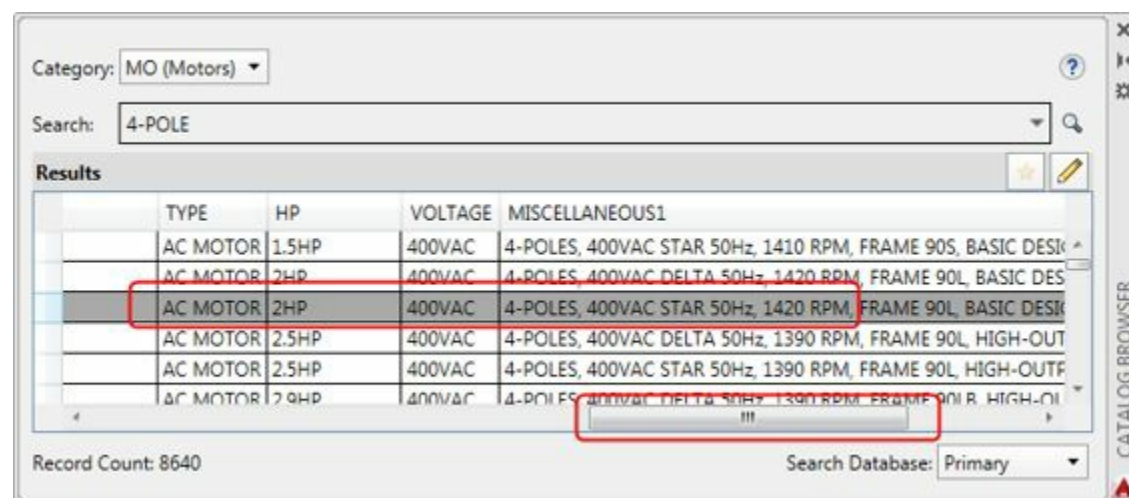

Figure-64. Catalog Browser with list of motors
- Click on the **Search** button. The list of motors in the catalog will be displayed as shown in Figure-64.